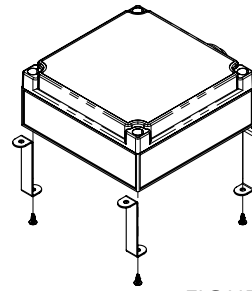

FIGURE 2
3. Install brackets to the PQC(F)320 unit. (See Figure 2)